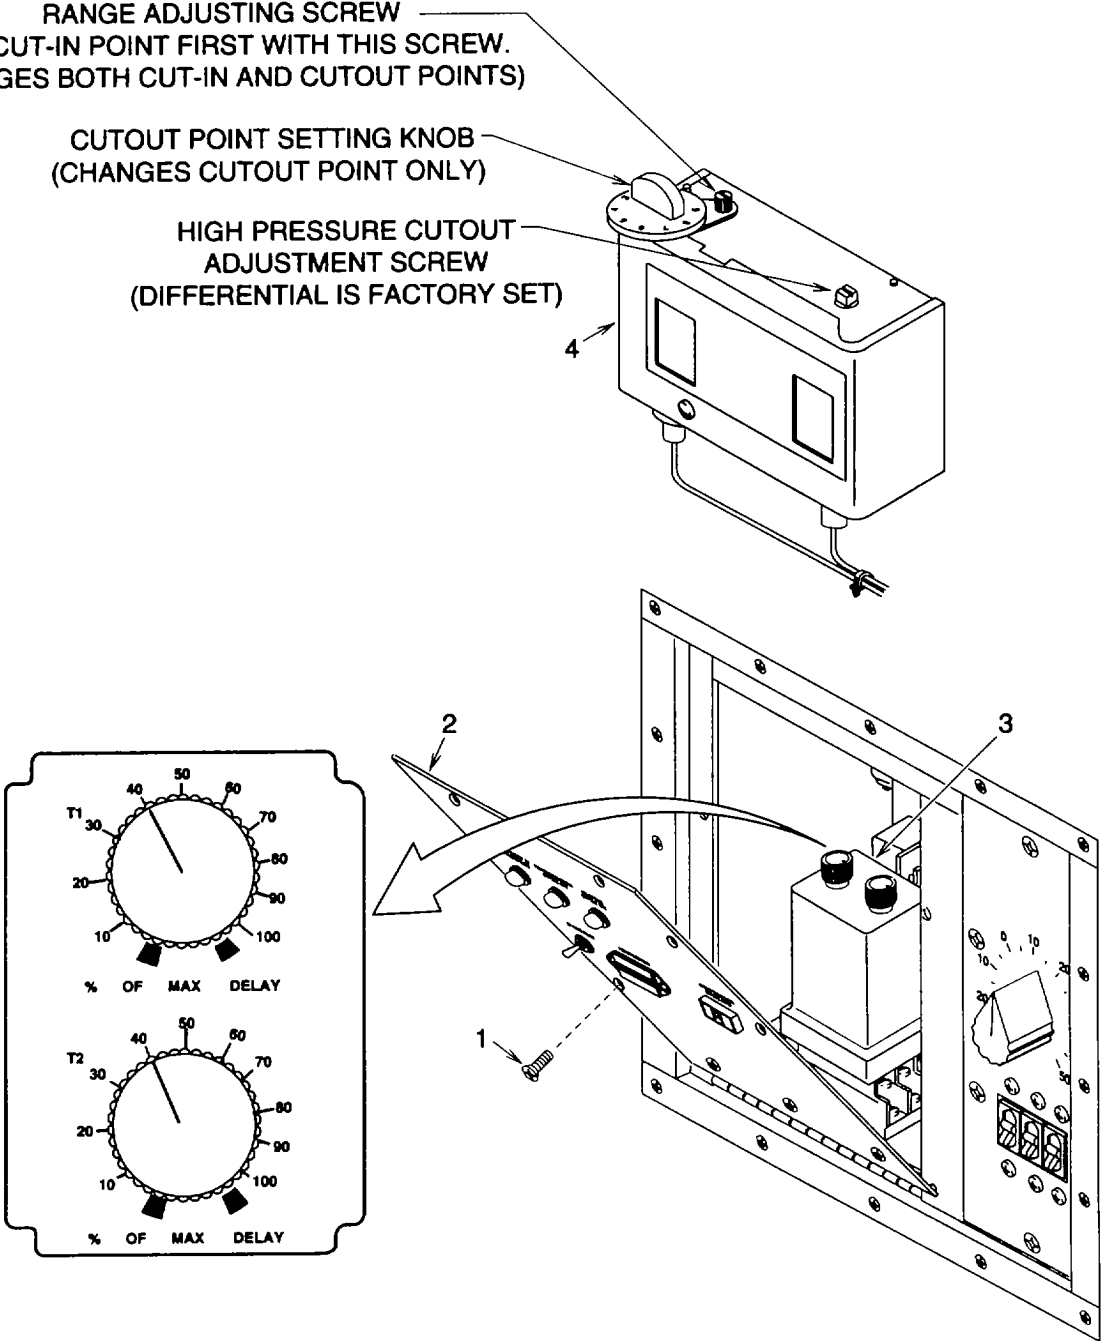

Figure 4-6. Preliminary Adjustment
b. Remove six screws (1, fig. 4-6). Open the control box cover (2).